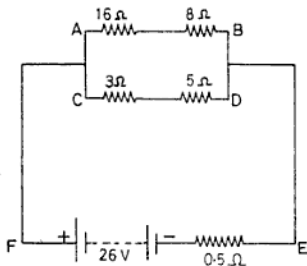

Fig. NE 9.24
- 9.24 A battery of emf 26 V and internal resistance  $0.5 \Omega$  supplies current to the network shown in Fig NE 9.24. Calculate the current in each branch and the total current supplied by the battery. (Ans. Upper branch 1 A